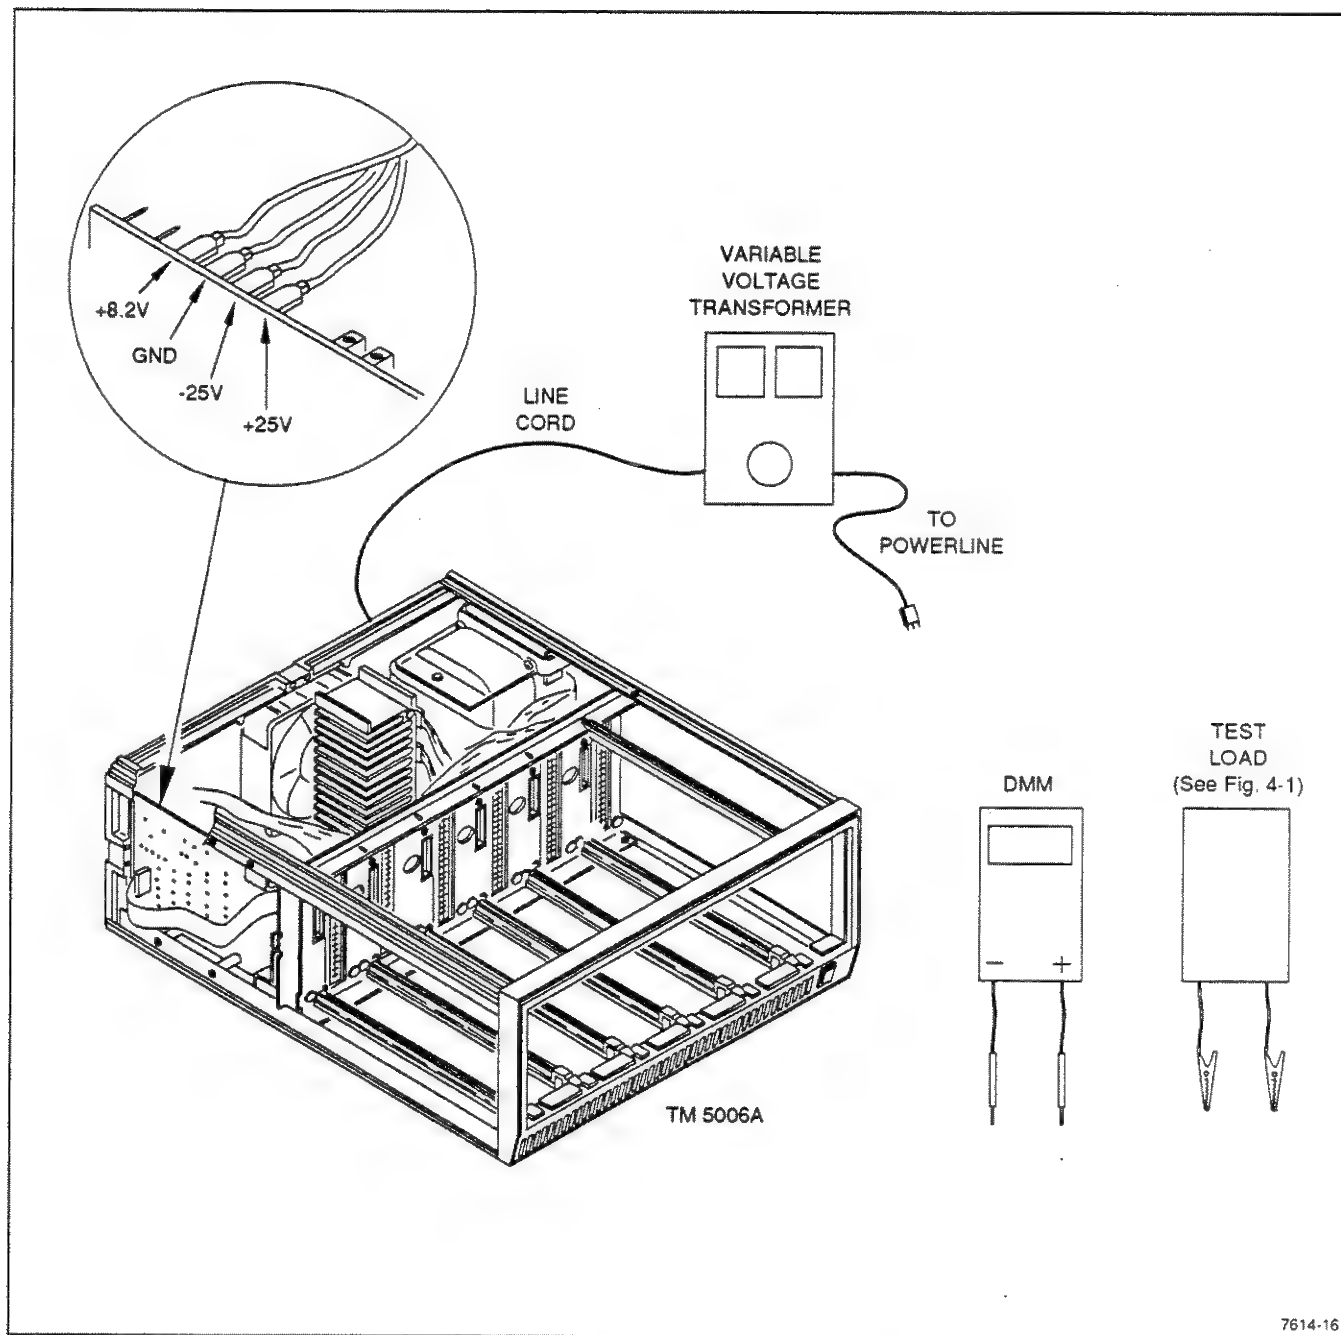

Fig. 4-2. Performance check setup.
Remove the top cover to gain access to the supply buses. Figure 4-2 shows the test point locations.
- Connect the test equipment as shown in Figure 4-2. Set the Variable Voltage Transformer line voltage for 10% below the nominal line voltage. (Nominal line voltage is the line voltage the instrument is set to operate on.)
- Connect a 4  $\Omega$  test load and the DMM between the +25 V supply and ground terminals shown in Figure 4-2.
- Connect the test equipment as shown in Figure 4-2. Set the Variable Voltage Transformer line voltage for 10% below the nominal line voltage.
- Connect a 4  $\Omega$  test load and the DMM between the -25 V supply and ground terminals shown in Figure 4-2.
- Connect a 0.46  $\Omega$  test load and the DMM between the +8.2 V supply and ground terminals shown in Figure 4-2.
- b. Connect a  $0.46\ \Omega$  test load and the DMM between the +8.2 V supply and ground terminals shown in Figure 4-2.